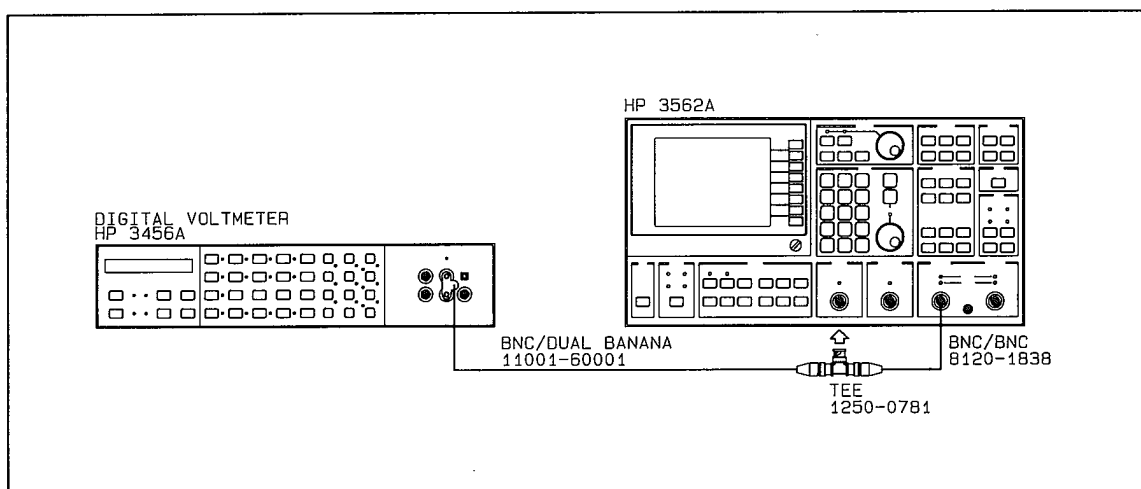

Figure 2-33 Source Energy Measurement Test Setup
- A. Connect the test instruments as shown in figure 2-33. Refer to "Initial Equipment Setup," paragraph 2-20, for unspecified parameters.